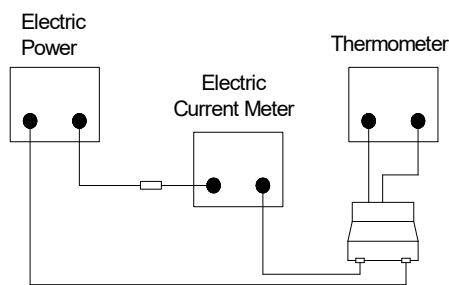

Fig.5.3.4-1
- Definition of Temperature rise current: DC current that causes the temperature rise ( $\Delta T = 40^\circ\text{C}$ ) from  $20^\circ\text{C}$  ambient (see Fig. 5.3.4-2).